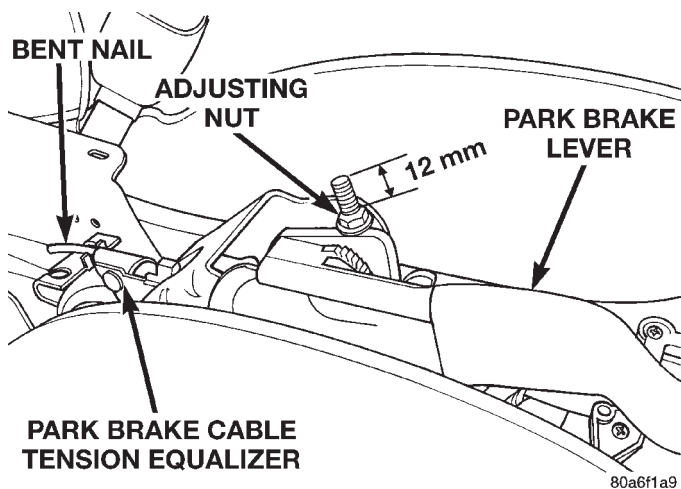

Fig. 133 Park Brake Lever Output Cable Adjustment
(6) Cable tension, for the parking brake system is to be correctly adjusted using the following steps.
- Tighten adjusting nut (Fig. 133) on park brake lever output cable (Fig. 133) until 12 mm millimeters of thread is out past top edge of adjustment nut (Fig. 133).
Actuating the park brake lever to its fully applied position 1 time after tightening the adjustment nut will yield (stretch) the bent nail portion of the tension equalizer (Fig. 133) approximately 1/4 inch. This process will correctly set the park brake cable tension.